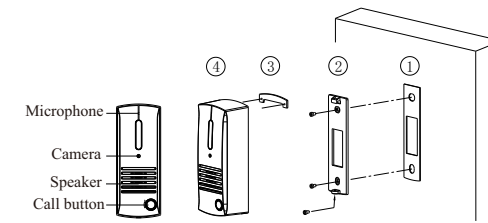

FIG.1
2.1 Outdoor station structure and installation diagram (FIG.1)